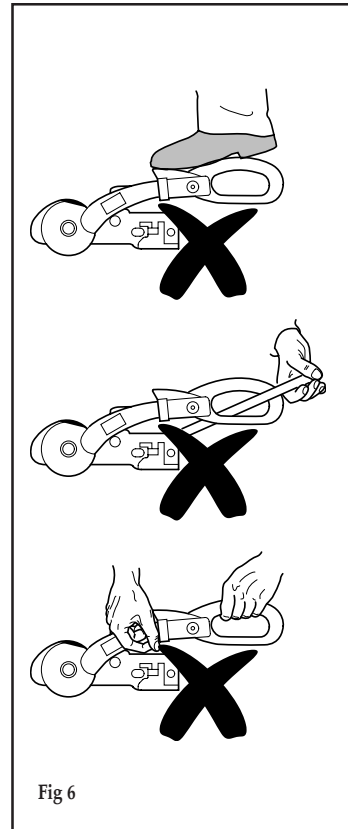

Fig 6
- Tighten the locking bolt socket using the wheel spanner provided (or torque wrench as shown) to wheel torque (ideally 86 Nm). (fig 6).
down by hand force only DO NOT use your foot or an extension bar, this will damage the components (Fig. 6).
- 3) When opening or closing the stabiliser lever, please ensure your hand does not touch the coupling handle - you may accidentally trap your fingers! (Fig. 6).